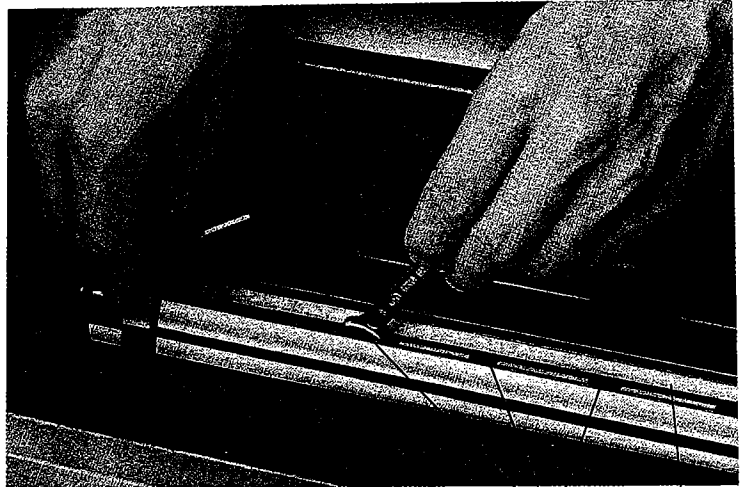
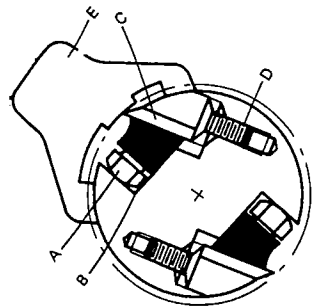

Fig.9
Fig.9-1
3. Loosen seven hex screws A. (Fig.9)
7. Adjust blade height by using knife guage (E) Fig. 9-1 and hex screw wrench. (Fig. 9)